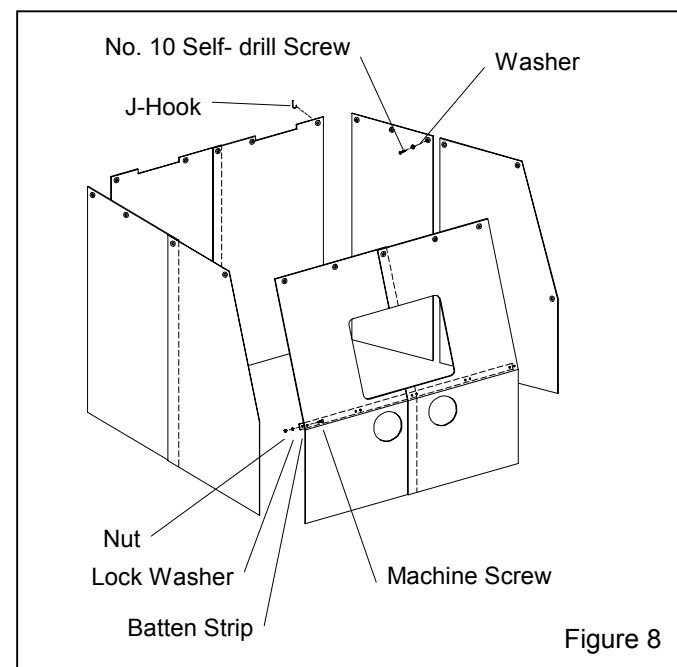

Figure 8
3.2 Curtain Installation, Figure 8
3.2.1 Match the curtains to the corresponding wall and door as shown in Figure 8. Hook the curtains to the J-Hooks welded along the top of the front, back, and side walls. Cut openings for the hoses on the lower left rear wall.
3.2.3 For front walls, place the batten strip over the curtain, and clamp it in position on the front slope above the break as shown in Figure 8. Match drill .187" (3/16") diameter holes through the rubber and cabinet front at each batten hole. To install the batten insert #10-24 x 1" round head machine screws through the cabinet front, curtain and batten. Install lock washers and nuts from inside the cabinet and tighten securely.